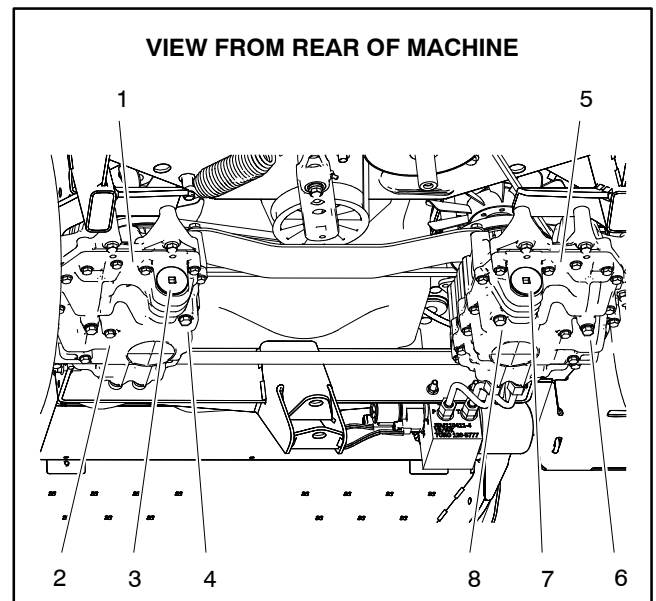

Figure 28
4. For reservoir that is to be serviced, remove two (2) transmission drain plugs (pump side and gear drive side) to allow transmission and hydraulic reservoir to drain (Fig. 28).
1. If removed, install hydraulic hose (item 9) to transmission fitting:
4. Secure hydraulic reservoir to the reservoir bracket with two (2) flange head screws and flange nuts (items 5 and 6).
5. Make sure that two (2) transmission drain plugs (pump side and gear drive side) are properly tightened (Fig. 28).